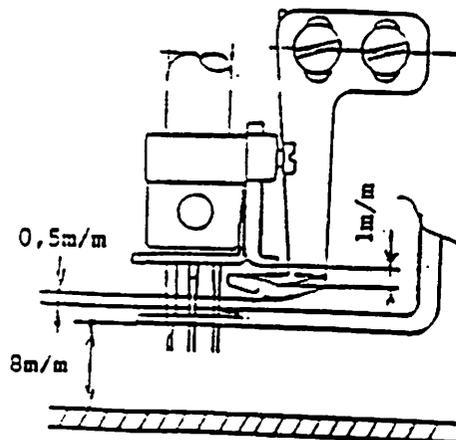

Fig. 17
b) Adjustment of spreader looper (Fig 17)